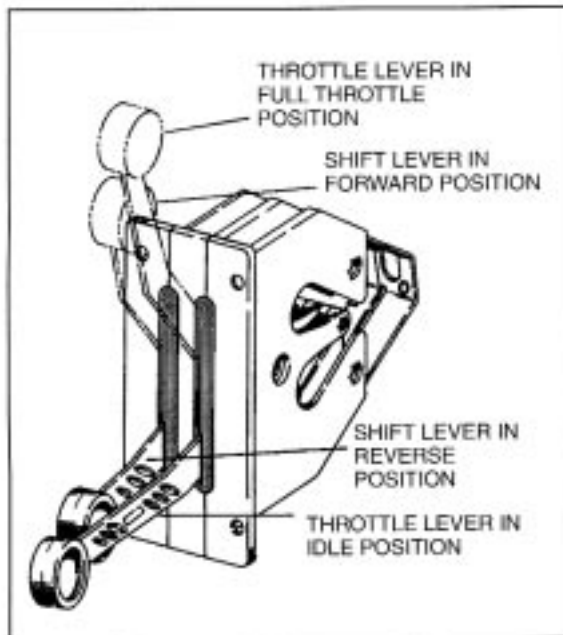

FIGURE 5
2. Position the shift and throttle levers to the full forward position for push-type control installation, or to the full reverse for pull-type control installations. See Figure 5.